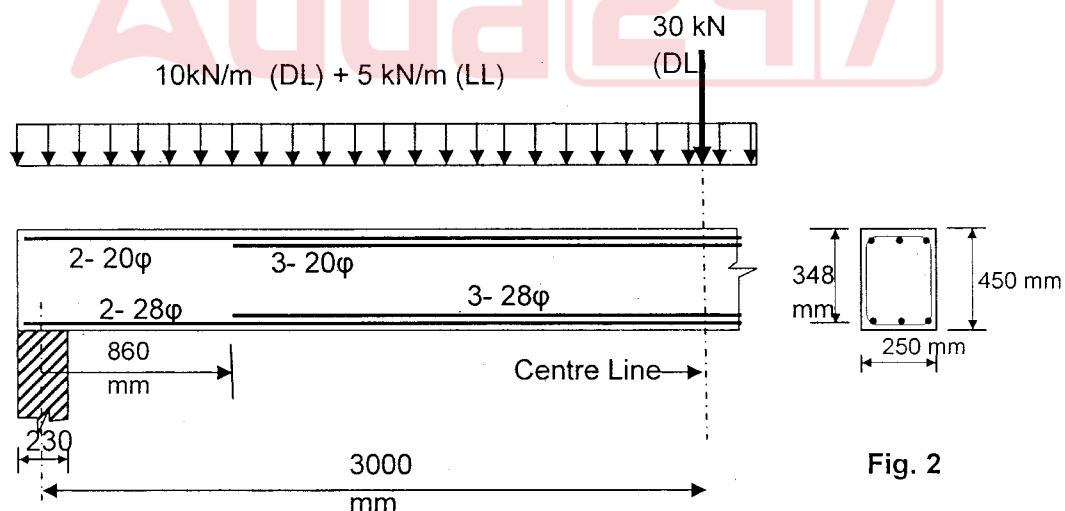

Fig. 2
- Design shear-reinforcement for the doubly reinforced beam shown in Fig. 2. The beam is simply supported with a total centre-to-centre span of 6.0 m. Use 8 mm ϕ vertical stirrups made of Fe 250 steel. The shear at the bar-cutoff point (860 mm from centre of support) also needs to be checked. The concrete is of M25 and flexural steel of Fe 415. (40)